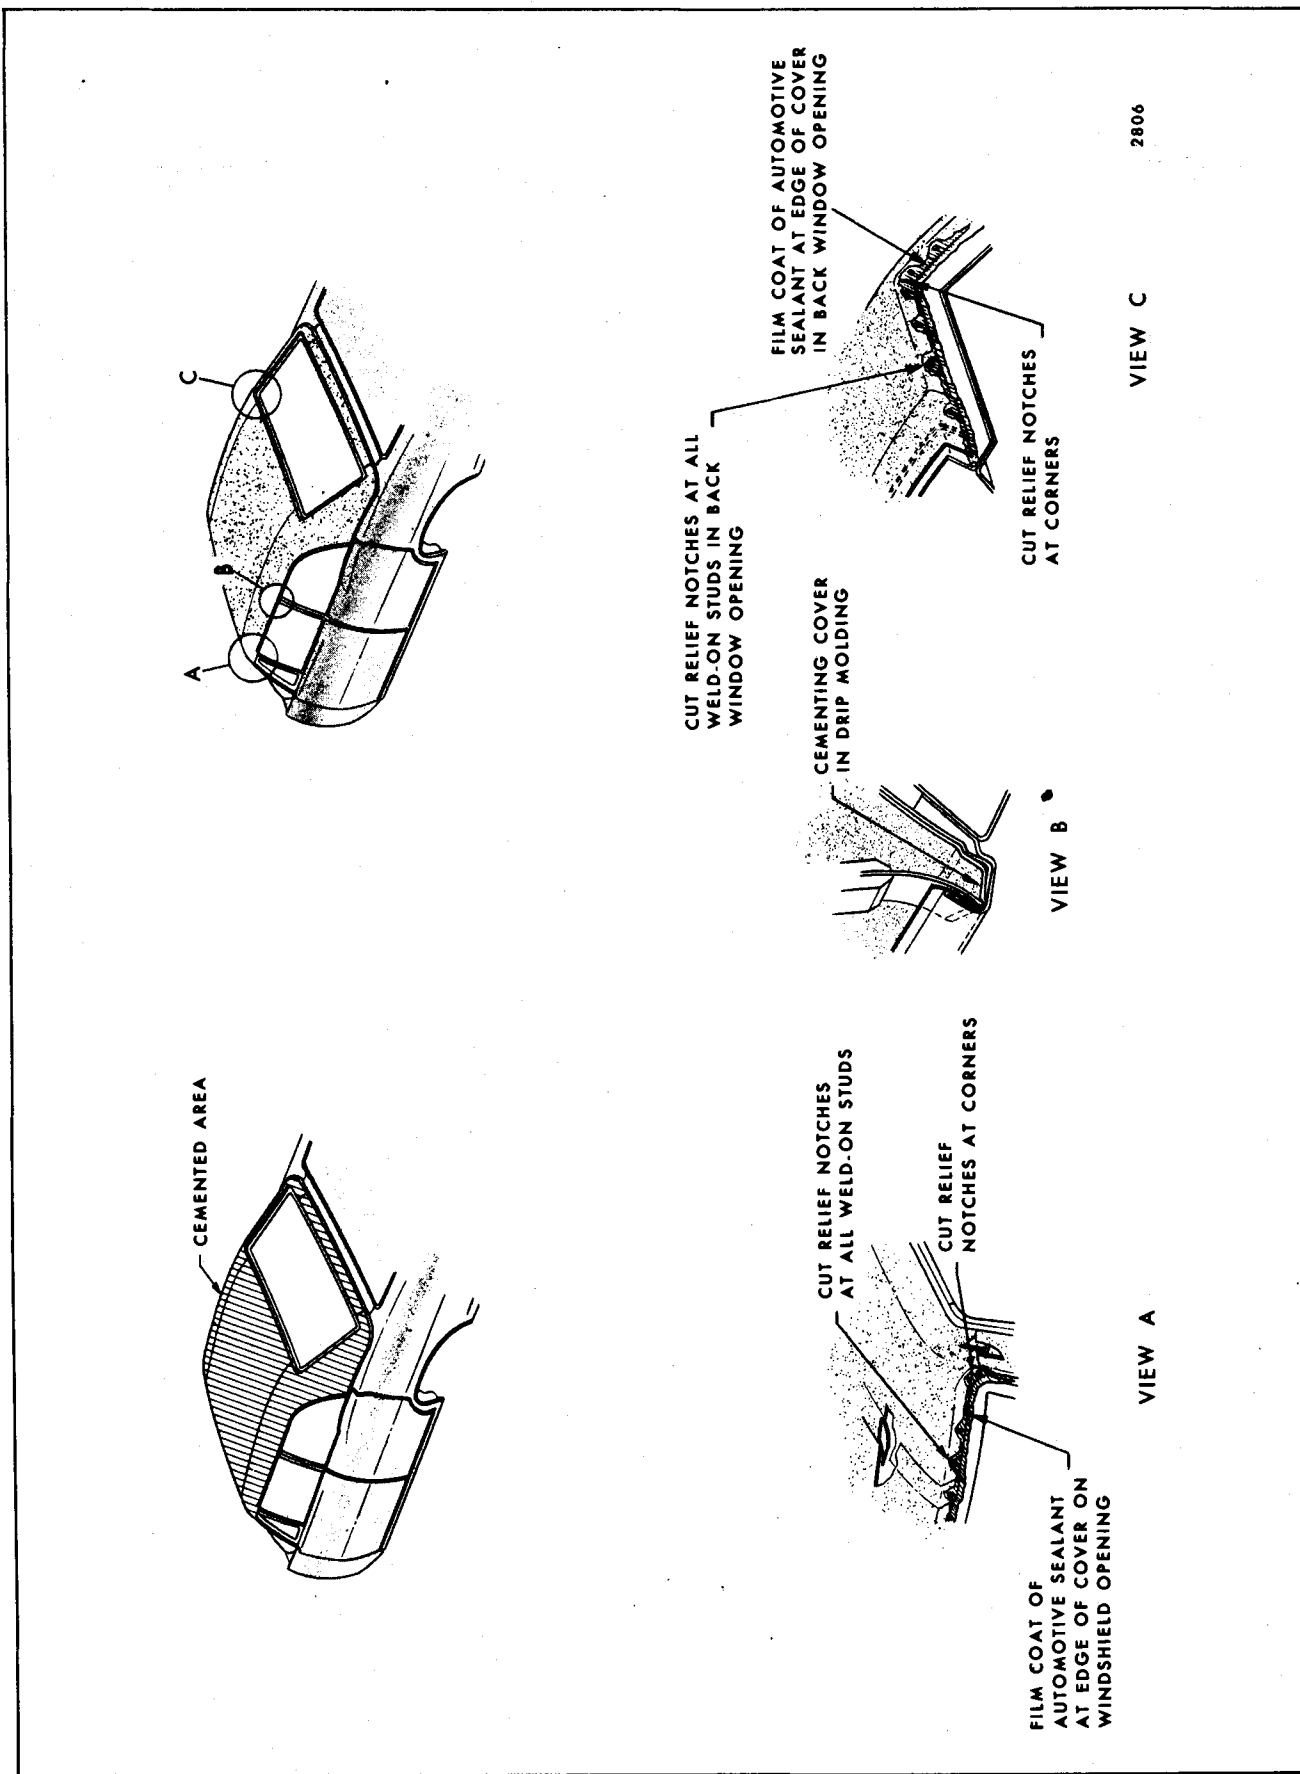

Fig. 11-5 Typical Fabric Roof Cover Installation without Pad or Roof Panel Moldings - "A and X" Styles
12. On styles where the cover extends into window openings, perform the following (Fig. 11-5):
22. Apply a "film" coat of silicone sealant such as Dow Corning Automotive Sealant, General Electric RVP Sealant, or equivalent, to the edge of cover in windshield and back window opening, quarter window, back body opening and at belt area; also, at edges on roof panel when roof panel moldings are used. Make certain edge of material around all reveal molding clips that were not removed is also sealed (Figs. 11-5, 11-6 and 11-8).